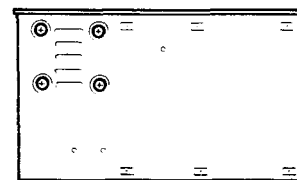

Figure 6.
- 15) Disconnect the two connectors of the FDD unit, remove the four screws shown in Figure 6, and remove the unit.